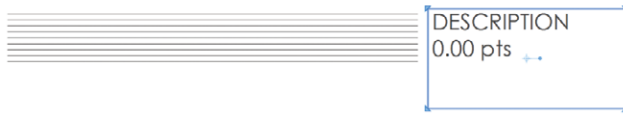

Figure 13.36 The beginning of a palette
4. Add a text box to the right of the group and enter the generic text **Description** on the first line and **0.00 pt** on the second line (Figure 13.36).